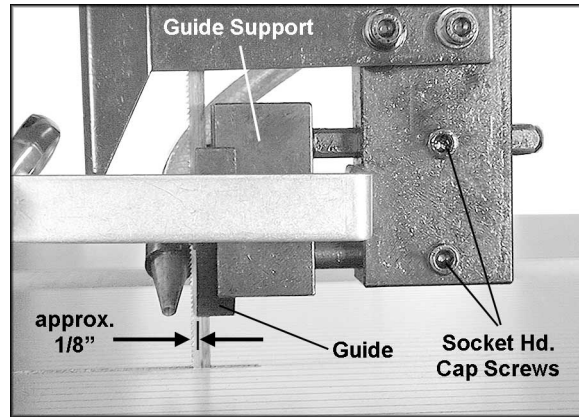

Figure 8
- Loosen the two socket head cap screws on the guide housing. See Figure 8.
- Move the guide support forward or backward in accordance with the width of the blade. The front end of the blade guides should be adjusted approximately 1/8" behind the blade teeth. See Figure 8.